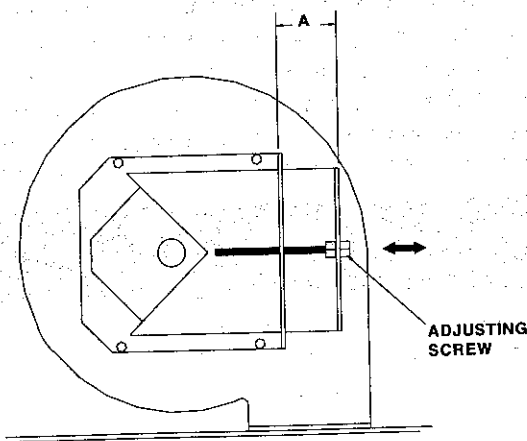

FIG. 39
- e. Use a rule to measure the distance between the outside surface of the fixed flange and the outside surface of the movable flange on the fan's air shutter. This distance is set by turning the adjusting screw on the air shutter assembly. See FIG. 39. Compare this distance to the specified A dimension for the boiler.